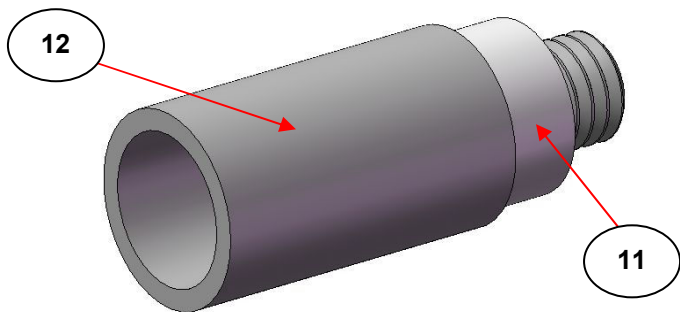

Fig 7. Threaded Luer Fitting to Fill the Static Liquid Sample Cells
The liquid cell can be filled with a liquid sample via a syringe fitted with a sufficient size needle that can be passed through the filling hole of the front plate (1) from where the filling cap bolt has been removed. Alternatively, the threaded Luer fitting (12) that is supplied with the liquid cell can be screw thread fitted into the hole of the front plate and then the cell can be filled via a compatible Luer fitting syringe. (See Fig 7. to show the threaded Luer fitting.) For screwing the threaded Luer into the hole position, a sealing washer (11) is also required.